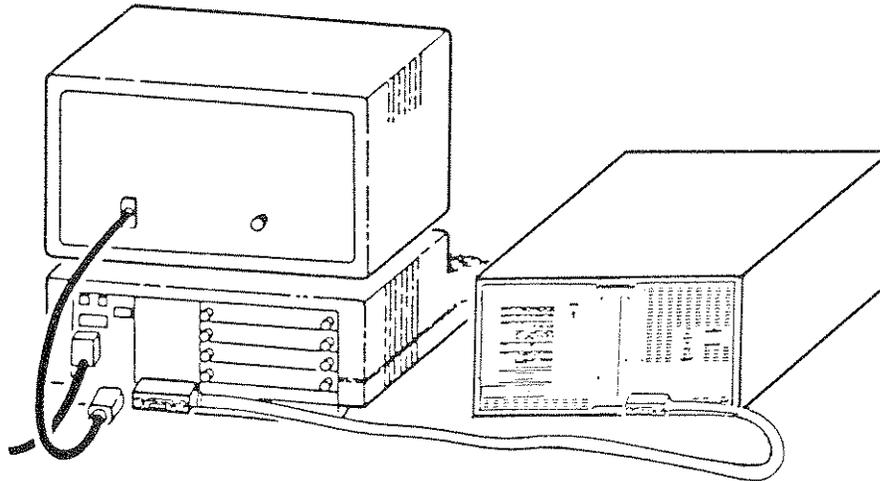

Figure 1-1. HP-IB Connections
1. Turn off the HP 35660A and the HP 9836, then connect them with the HP-IB cable as shown in Figure 1-1.